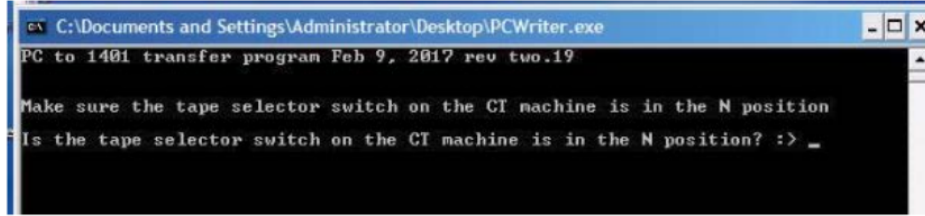

Figure 3: PCWRITE Prompt #1
- 4.5. Use the PC mouse to click on the icon named **PCWRITER.EXE**. This should display a black Windows Command-Line window, with the initial prompt as shown in Figure 3.